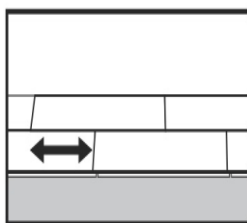

Figure 1.
5. To optimise structural and visual performance. First and last plank length should not be less than 300 mm. Short end joins on parallel planks should be at least 300 mm in distance from the adjoining plank, Figure 1. Installer needs to plan the layout of plank lengths and visual aspects prior to final fix. This will assist in providing a balanced blend of grade, colour and joint alignment.
8. To optimise structural and visual performance, First and last plank length should not be less than 300 mm. Short end joins on parallel planks should be at least 300 mm lengthways in distance from the adjoining plank. Refer, Figure1.